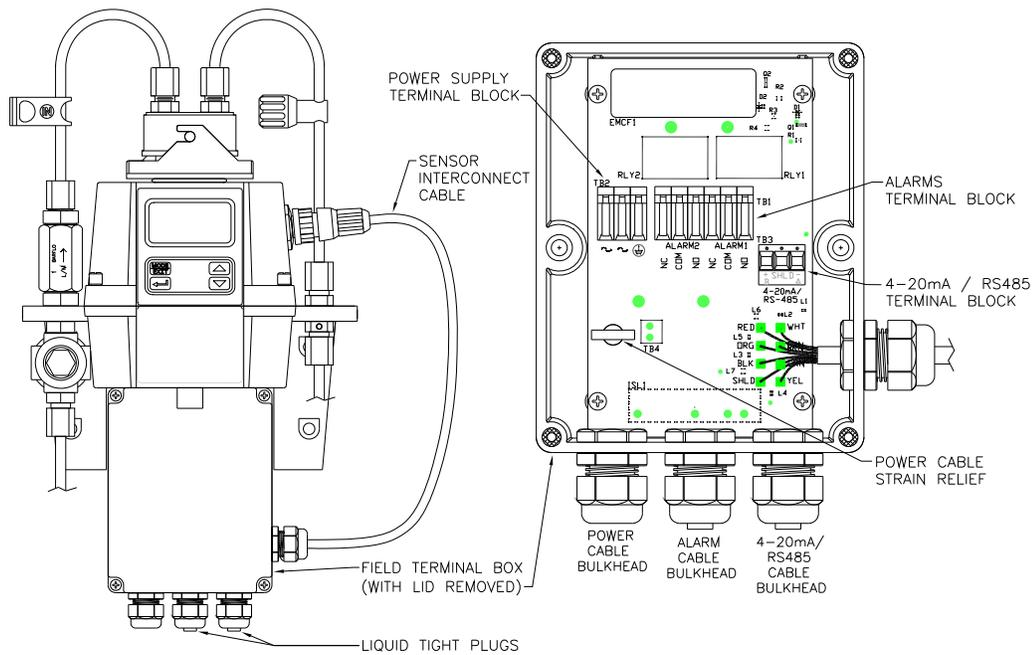

Figure 5: Electrical Connections for the Instrument
All of the electrical connections to the instrument are made through the field terminal box, which should be located directly under the sensor portion of the instrument. The connections are labeled within the terminal box and are self-descriptive (see Figure 5). Please follow all local and government recommendations and methods for installation of electrical connections to and between the instrument and other peripheral devices.
3.3.1 Power: The instrument is equipped with a 100-240 VAC, 47-63 Hz switching power supply; please verify that the line voltage falls within these specifications. It is recommended that a circuit breaker be placed prior to the power connection to allow for service. While making connections, refer to Figure 5. **The AccUView is not supplied with a power cord.**